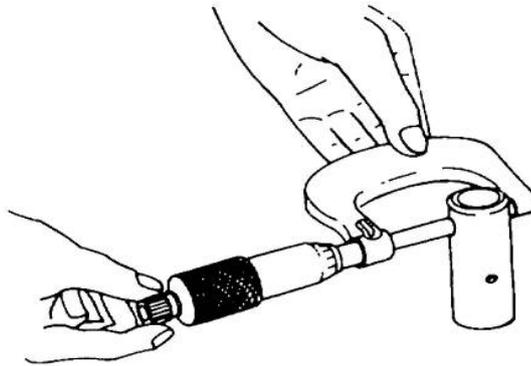

Figure 35 Camshaft Follower Outside Diameter Dimensions
- d. Using a micrometer (Figure 35), check that the camshaft follower OD is 27.92 to 27.98 mm (1.100 to 1.102 in) and replace as necessary.